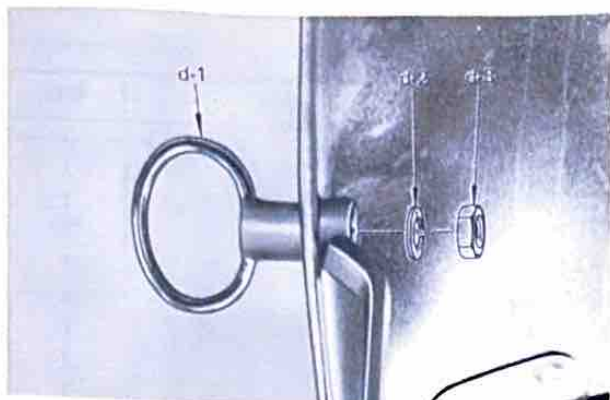

Fig. 9
3. Install the wire holder (d-1) using spring washer (d-2) and nut (d-3) contained in the vinyl bag (d). (Figs. 9 and 10)